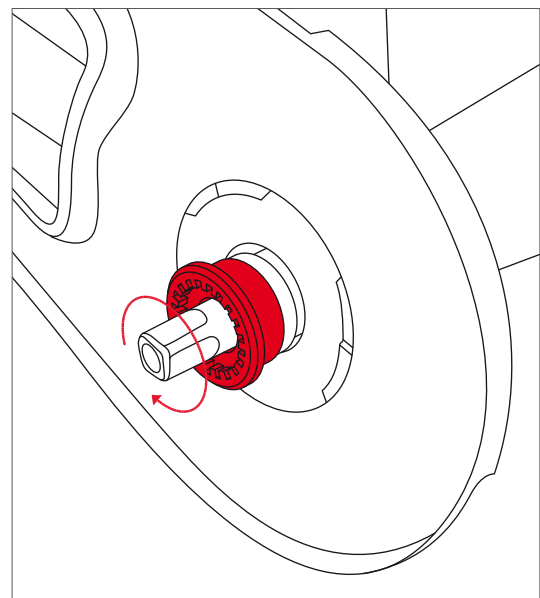

Figure 4.47 Bottom bracket set assembly
3. Install the new bottom bracket set in the sleeve and lock in secure by tightening the right cup (Fig. 4.47).